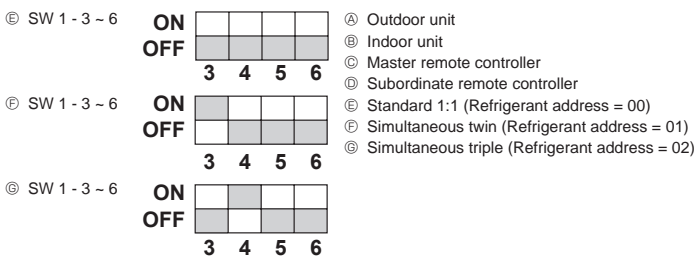

Fig. 9-1
① Supply power (circuit breaker).
② After the liquid stop valve is closed, set the SWP switch on the control board of the outdoor unit to ON. The compressor (outdoor unit) and ventilators (indoor and outdoor units) start operating and refrigerant collecting operation begins. LED1 and LED2 on the control board of the outdoor unit are lit.
9. System control (Fig. 9-1)